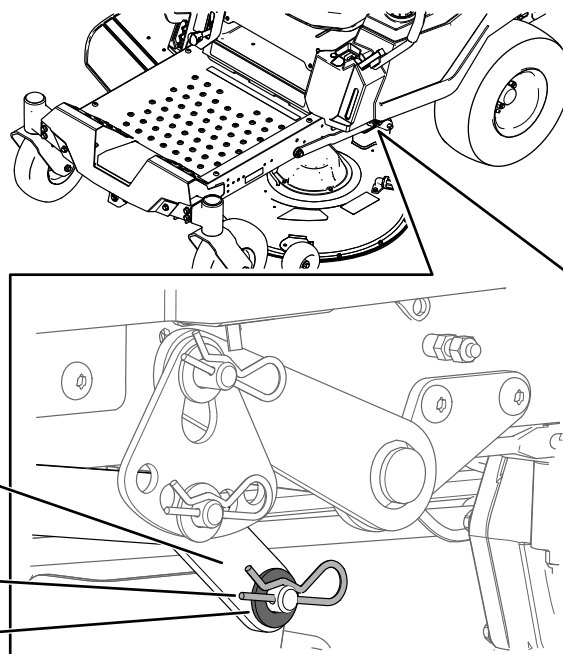

Figure 73
6. On 1 side of the machine, remove the washer and hairpin cotter from the deck pin (Figure 73).
7. Remove the lift arm from the deck pin (Figure 73).
5. On 1 side of the machine, lift the rear of the mower deck and install the lift arm to the deck pin (Figure 73).
6. Install the lift arm using the washer and hairpin cotter (Figure 73).